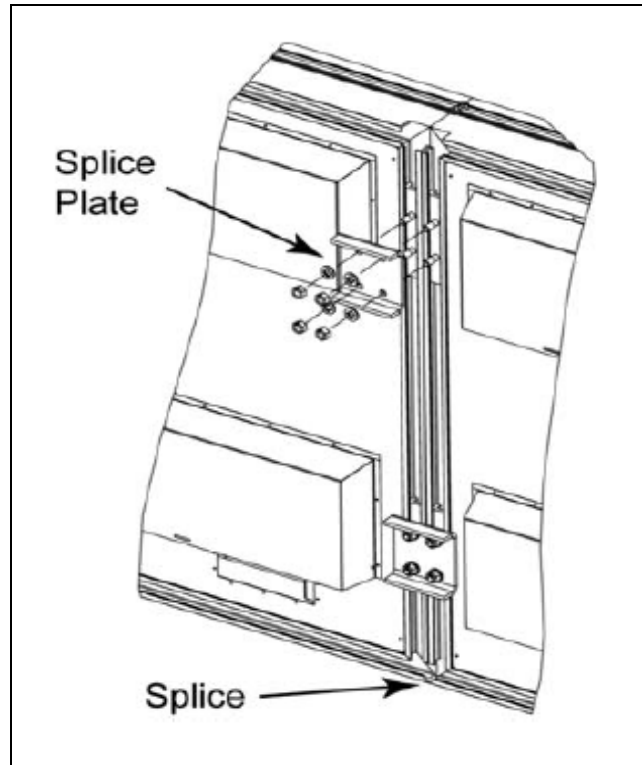

Figure 6: Section Splice
27. Attach and secure all mounting plates along the section splice. Refer to **Figure 6**.